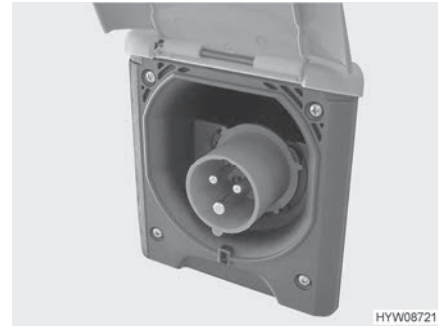

Fig. 102 230 V connection on the vehicle (CEE socket outlet)
- Open the cover of the 230 V connection on the vehicle (Fig. 102) and insert the plug connector. Ensure that the detent of the spring-mounted pivoting cover is engaged in position.